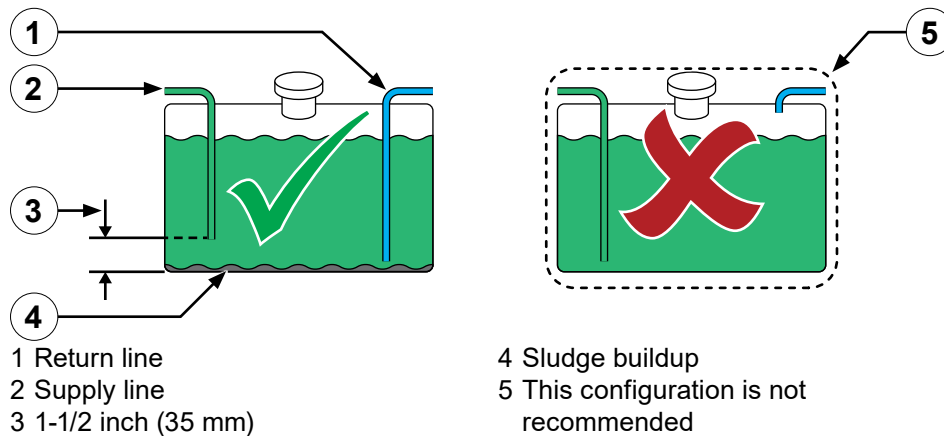

Figure 16
- Use **Figure 16** to configure the supply and return lines when connecting to a dedicated fuel tank.